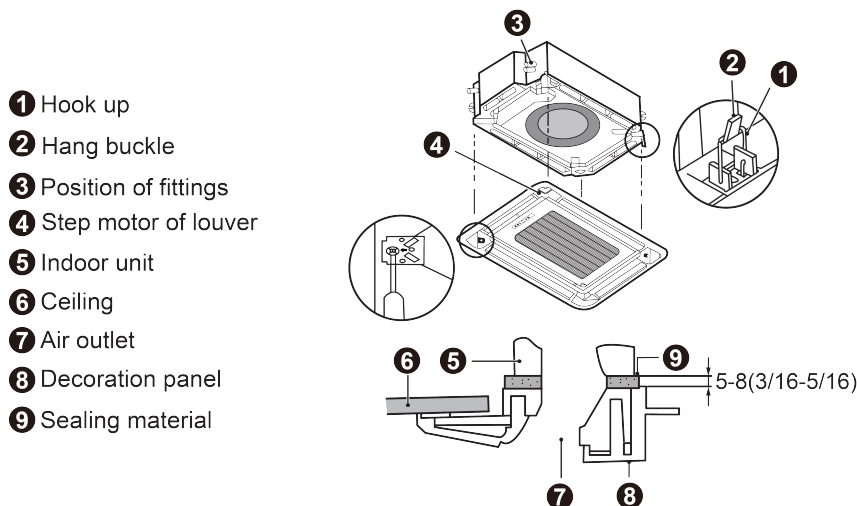

Fig.4.5.4
- (1) Detach the panel's Corner Cap, there is a mark "piping side" on one of the 4 corners, adjust the panel direction so as to keep the mark and fittings on the same corner.
- (2) Temporality hang the panel to body (there is four hangers on each corner of the panel, hang the hangers to corresponding hooks on the body), as shown in Fig.4.5.4.
- (3) Detach the air inlet grille from panel, make a wiring connection of signal receiver. Notices that the connection wire not stuck in the middle of body and panel, or may cause air leakage and